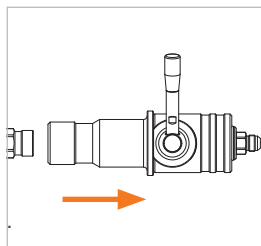

Figure 6
- ▶ Lift the hose on the fueling nozzle slightly and pull the fueling nozzle straight off the receptacle (*Figure 6*).